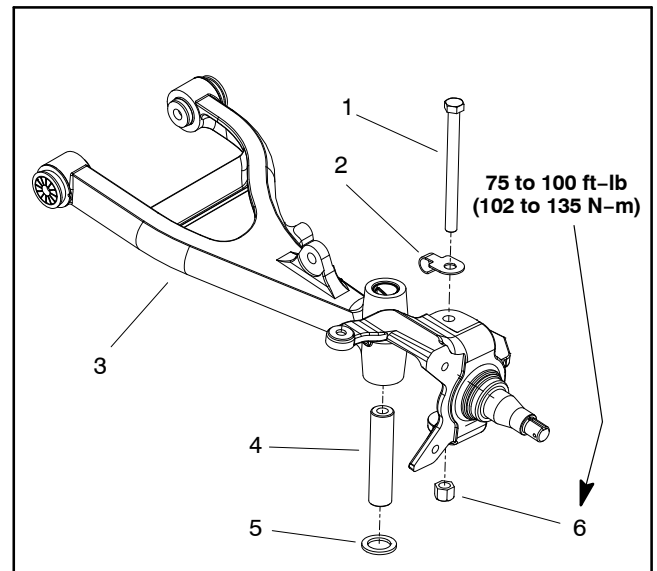

Figure 12
9. Remove spindle (Fig. 12):
1. Install spindle as follows (Fig. 12):